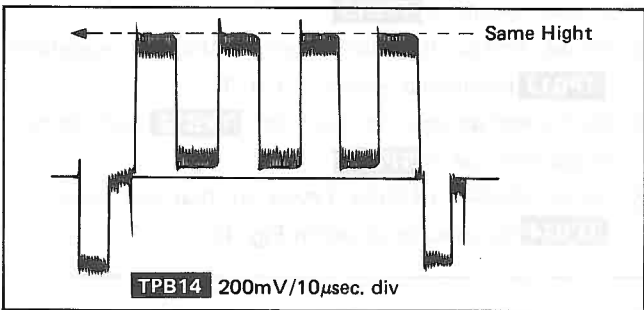

Fig. 36
4. Adjust Phase VR (R5809) and Chroma VR (R5804) so that the waveform **TPB14** becomes as shown in Fig. 36.